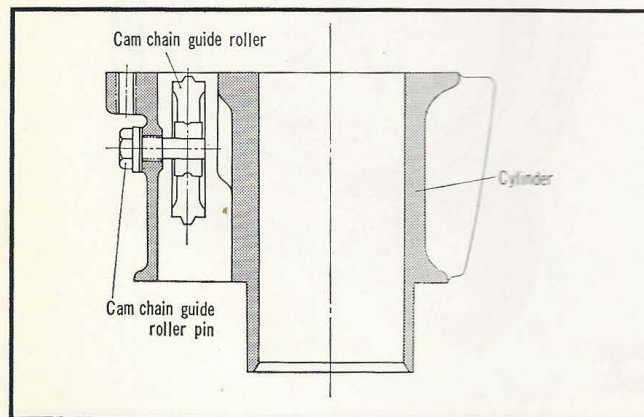

Figure 3-39. Cylinder cross section
- (1) Remove the cylinder head in accordance with section 3.21a.
- (2) Remove the 6mm cylinder HS bolts.
- (3) Remove the 6X14 hex bolt and draw out the cam chain guide roller, this will permit the cylinder to be separated from the crankcase. (Fig. 3-39, 3-40)